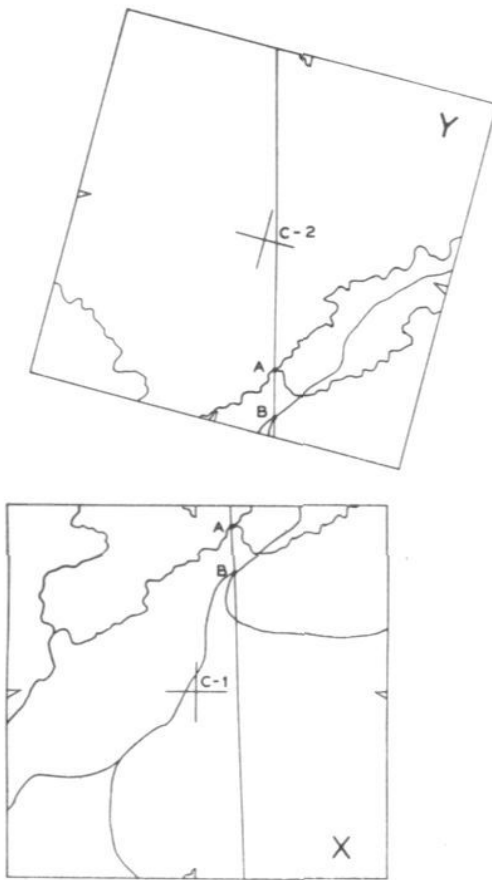

FIG 2
b. In Figure 2, the points selected are A and B. These points should be as near as possible to the common radial line; they should be as far apart as possible; that is, A should be near the edge of photo X. For good results when joining 18 × 18-inch wide-angle photos, A and B should be three or more inches apart.
the AB lines of the two photos coincide. The photos are now oriented for direction. To assist in the alinement of the AB lines, these lines should be extended across each photo (Fig. 2); in addition, the coincident points B should be placed over a line drawn on a sheet of paper of such length to extend beyond both ends of the strip (Fig. 3). The lines drawn across each photo can be quickly brought into coincidence with the long line drawn on the paper.